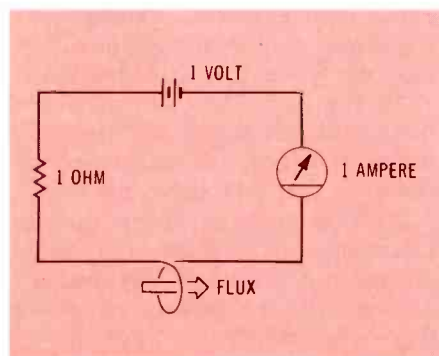
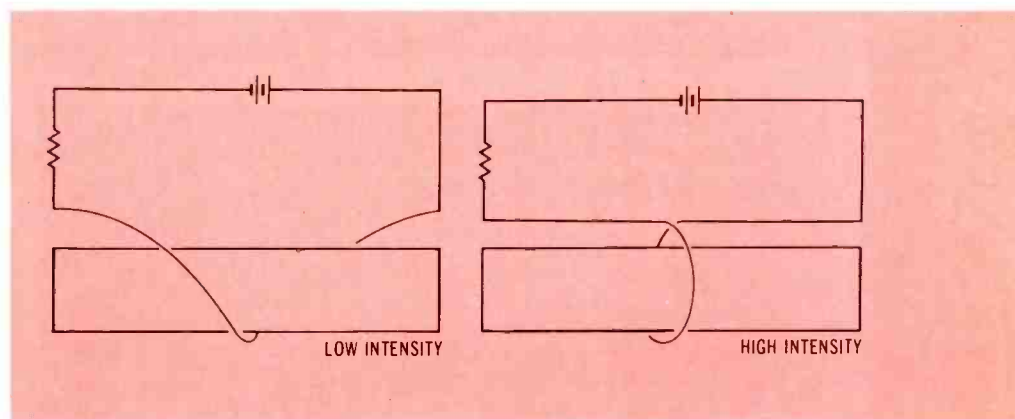

Figure 4 One ampere-turn of MMF
Figure 5 Turn spacing changes the intensity
a known MMF by current in a coil, as illustrated in Figure 4. Measurements of voltage, current, and resistance are easy, so this method is cheaper and more convenient than the one using a standard magnet.
taken by itself (see Figure 5). If the turn of wire is spaced closely, then all of the MMF ampere-turn is concentrated in a small region. If the same one turn is stretched out,
Except for two items, Q900 is a conventional video amplifier stage for the signals that enter the chroma module at terminal TC43 (Figure 4).
L900 tuned circuit at the cold end of the emitter resistor. This is proved by waveform W2 in Figure 5, which shows the color-bar pulses (without the sync and blanking pulses) at the tuned circuit. (Any signal developed between emitter and ground is subtracted from the base signal, thus reducing that part of the waveform in the collector signal.)
**Figure 4** The external controls and signal inputs are shown for the E44 Sylvania video circuit, which is complete except for the color power amplifiers that drive the CRT cathodes. The important waveforms are in Figure 5.